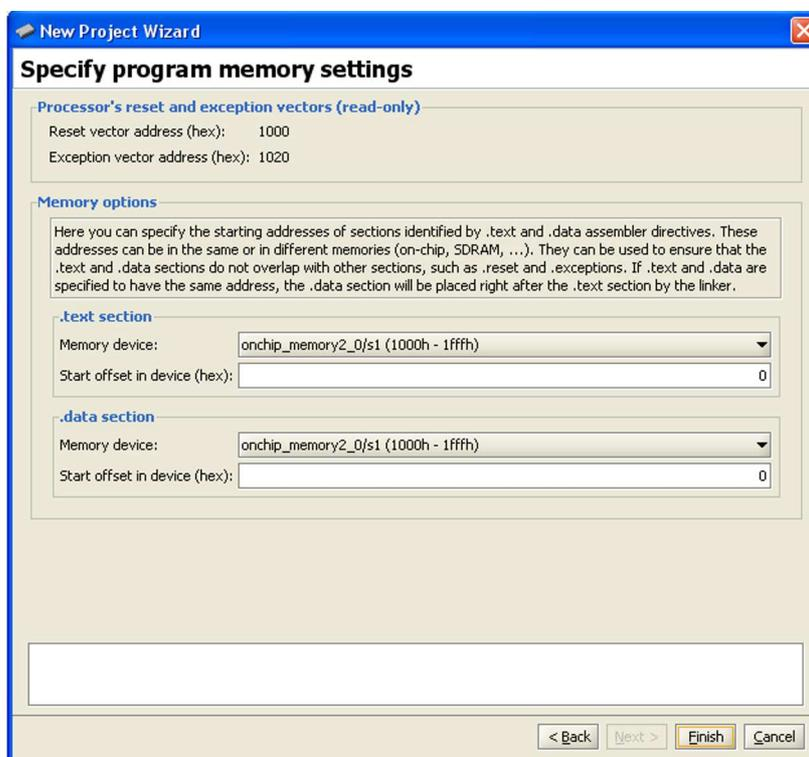

Figure 25. The program memory settings window.
10. The Altera Monitor Program also needs to know where to load the application program. In our case, this is the memory block in the FPGA device. The SOPC Builder assigned the name *onchip\_memory2\_0* to this block. As shown in Figure 25, the Monitor Program has already selected the correct memory device.
An application program written in the C language can be handled in the same way as the assembly-language program. A C program that implements our simple task is given in Figure 25. Enter this code into a file called *lights.c*.